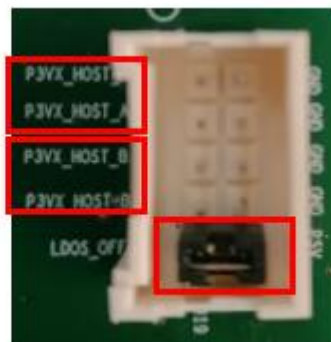

Figure 1: External Power Source
- Apply external 3.3V at P3VX_HOST pins of U319 connector, shown in the Figure1.